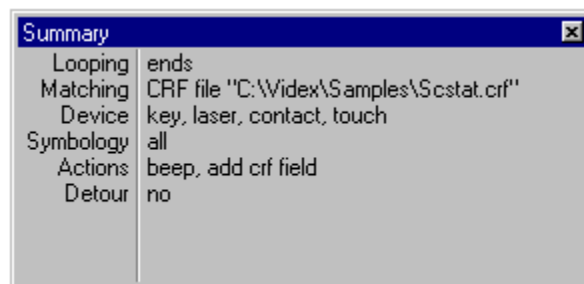

Figure 3-104 “Status” Handler Summary Window
n) The “Status” Handler **Summary** window shows the changes to the **Matching** and **Actions** properties (Figure 3-104).